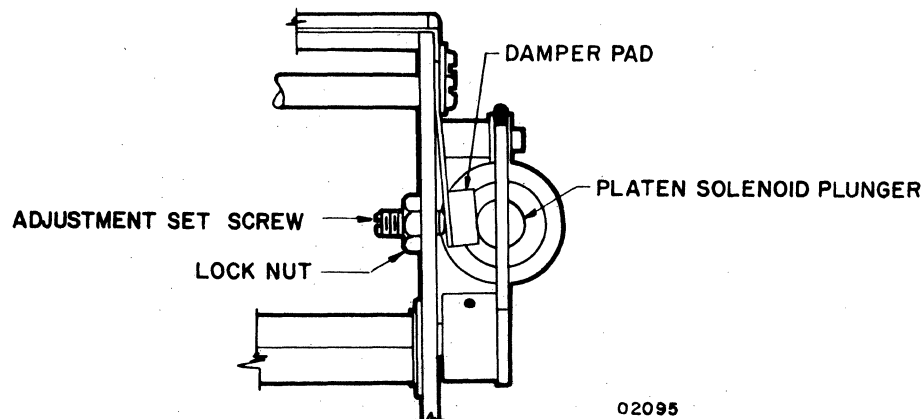

Figure NIP7. Damper Pad Adjustment
- 16) Check print quality. If print has a dark cast or printhead drags on paper during carriage return, the solenoid plunger damper pad may be adjusted too tight, restricting solenoid plunger movement. If print quality is good, but vibration and noise is discernible, the damper pad may be adjusted too loose. Loosen locknut and turn damper pad adjusting screw to increase pad pressure until print quality is affected. Then back off screw just enough to obtain good print quality. Tighten nut (see figure NIP7).